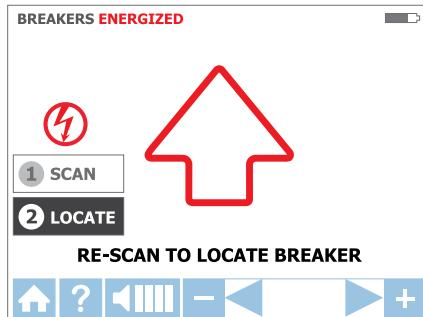
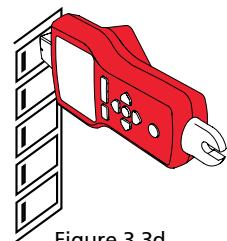

Figure 3.3c
Figure 3.3d
2. Scan each breaker for a half second by touching it with the Tip Sensor. Make sure the groove on the Tip Sensor is parallel to the breaker lengthwise (See Figure 3.3d)
Step 2 - ② LOCATE
1. Select LOCATE mode by using the directional arrows to highlight this operating mode and pressing the yellow "ENTER" button. (See figure 3.3c)
2. Rescan each breaker by touching each with the Tip Sensor for a half second. Active red arrow indicates scanning process (see Figure 3.3c). Make sure the groove on the Tip Sensor is parallel to the breaker lengthwise.(See Figure 3.3d)